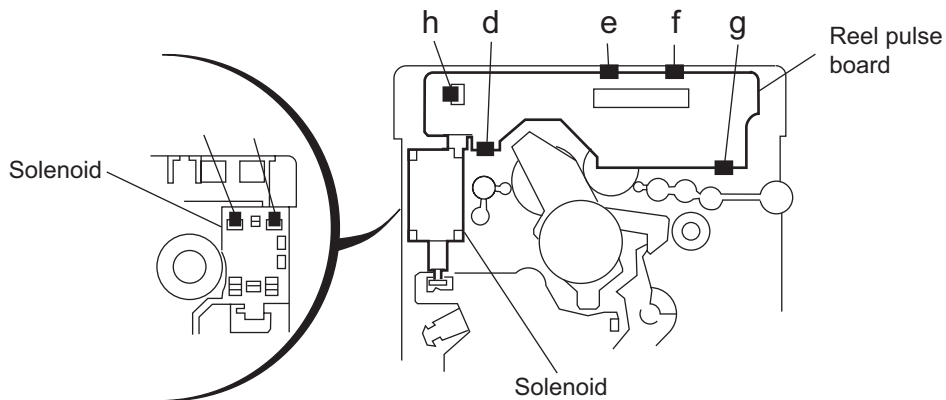

Fig.14
**(See Fig. 14)**
- (1) Remove the five pawls **d** to **h** retaining the reel pulse board.
- (2) From the surface of the reel pulse board parts, remove the two pawls **i** and **j** retaining the solenoid.